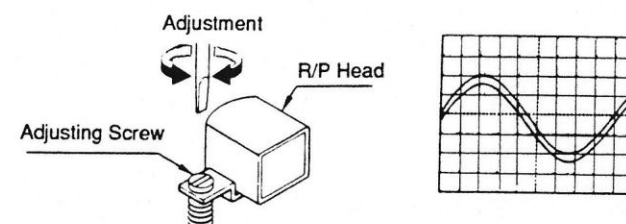

Fig. 9. without auto-reverse
- Adjust the azimuth adjustment screw of left side of record/play head for maximum output and the same channel phase. (see Fig. 9, 10).